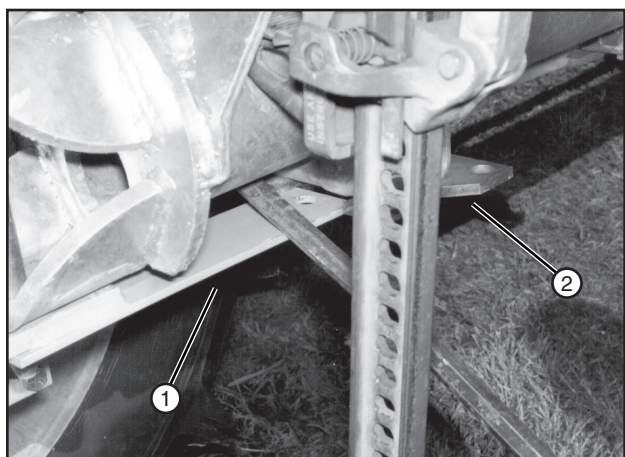

Figure 86-3 1. Steering Arm 2. Latch Plate
6. Make sure the steering arm is latched in the latch plate. See figure 86-3.